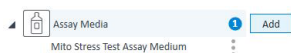

Figure 9 Assay Media
- 1 Click **Add** next to **Assay Media**. (See Figure 9.)
- 2 Enter a name for the assay media, or use the Media drop-down menu to select a media from the catalog. The default name when adding a new assay media is **Assay Media #** (# corresponds to how many assay media have already been added). (See Figure 9.)